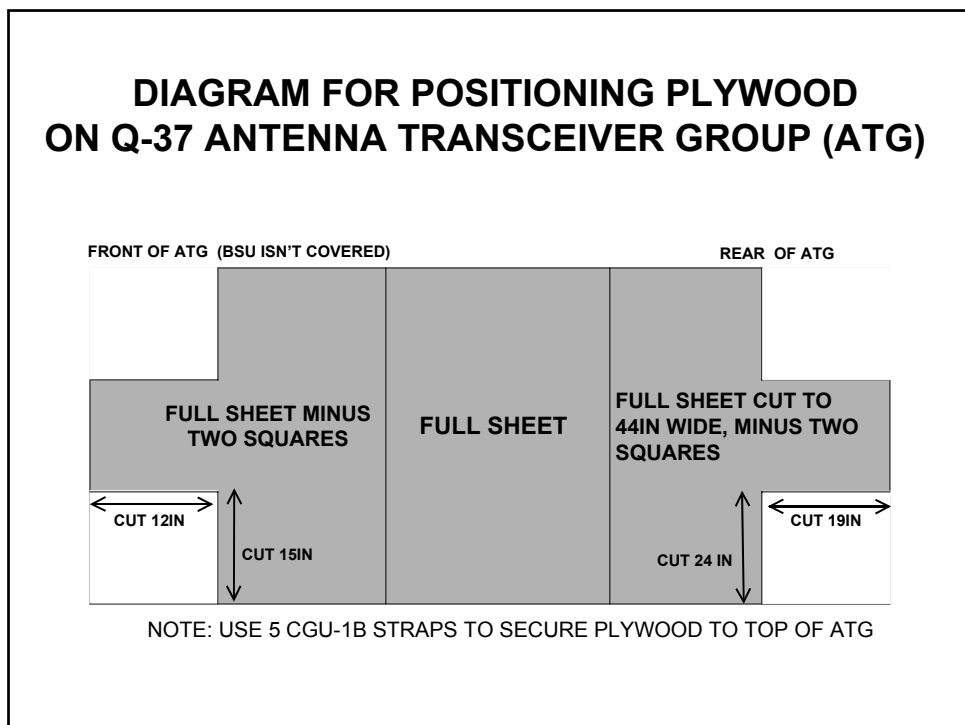

Figure I-7. ATG Plywood Preparation
- Cover top of radar with 3/4-inch plywood and secure with 5K straps. Figure I-7 shows the preparation and placement of plywood on the antenna. Do not stand on top of the load until the plywood is in place.